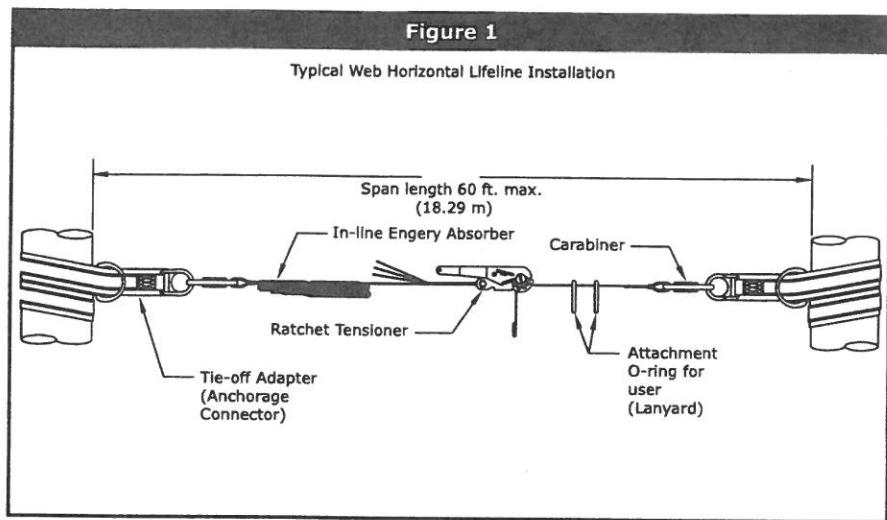

Figure 1
**SYSTEM INSTALLATION:** Figure 1 shows a typical Web horizontal lifeline installation. When using an energy absorbing lanyard to connect to the system, the end anchorages must be located at a height which will limit the free fall to 6 feet (1.8m). When using a self retracting lifeline (SRL) to connect to the system, the end anchorages must be located above the user. The SRL, when fully retracted, must be above the harness attachment level. The horizontal lifeline system should be positioned at a level that will minimize free fall while allowing ease of use. The horizontal lifeline should be positioned near the work location to minimize swing fall hazards. The connecting subsystem length should be kept as short as possible to reduce the potential free fall and required clearance distance. Both anchorages must be installed at approximately the same elevation, so that the horizontal lifeline system is not sloped more than 5°.